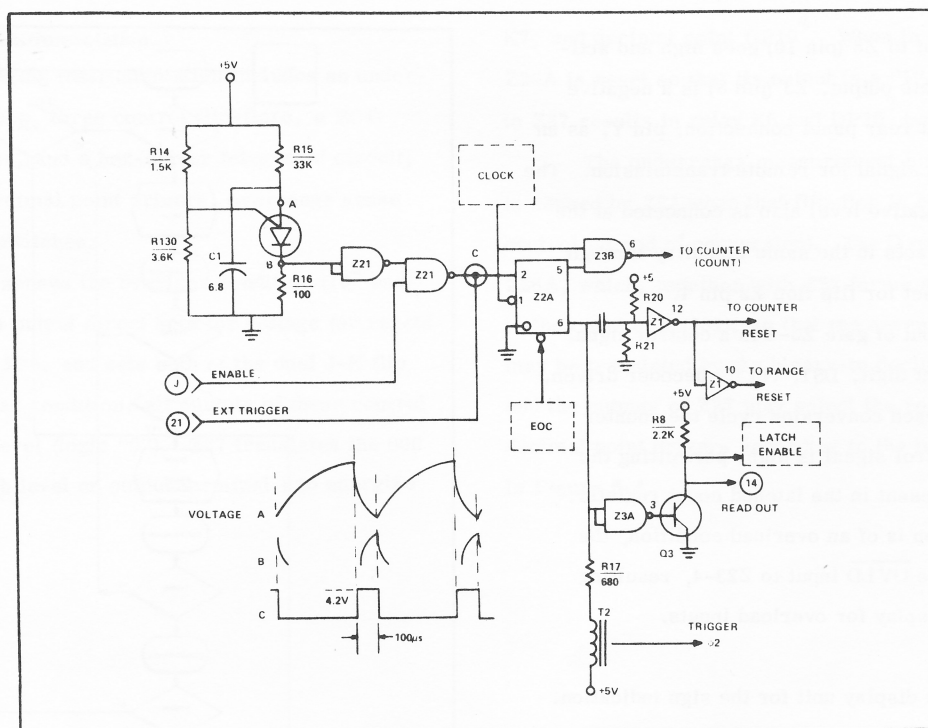

Figure 4-12 Trigger and Timing Generator
The trigger pulse initiating each conversion process may originate either from an external source or from internal circuitry shown in the simplified form of Figure 4-12. Capacitor C1 charges toward +5V through R15 until the firing voltage of Q40 is reached. A pulse approximately 100 μ sec wide and 4 volts magnitude is developed across R16 and connected to J input of the control flip flop (Z2 pin 2). The sawtooth charge-discharge signal and the resulting trigger timing signal waveforms are shown in Figure 4-12.
b. Counter Chain (Figure 4-12)